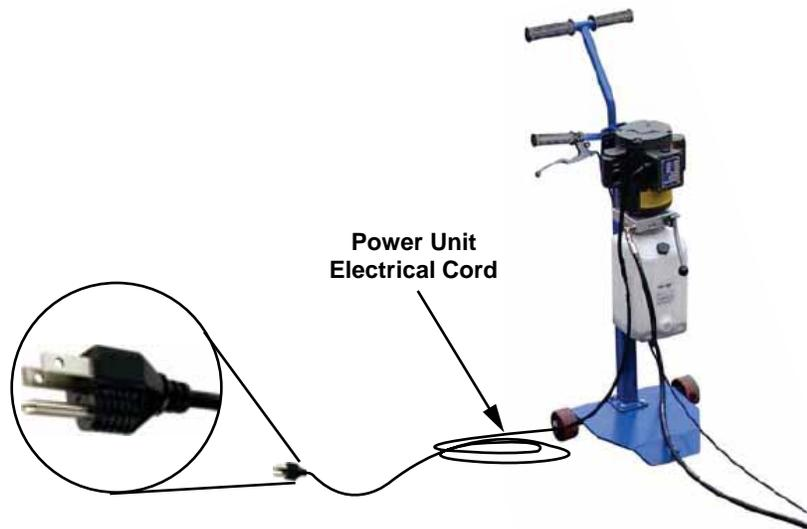

Fig. 5
- A. Connect the 115V AC electrical power to the Power Unit's three prong electrical plug. Use the proper size extension cord and plug type for 20 Amps (Fig 5.)